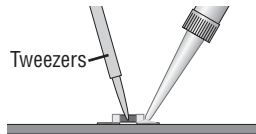

Figure 1.6.
- 2 Grasp the component in the middle with tweezers. Melt the small mound of solder with the iron and place the component across the two pads (in the correct orientation, if the component is sensitive to direction) and press it flat against the circuit board, with one end of the component immersed in the melted solder (Figure 1.6).